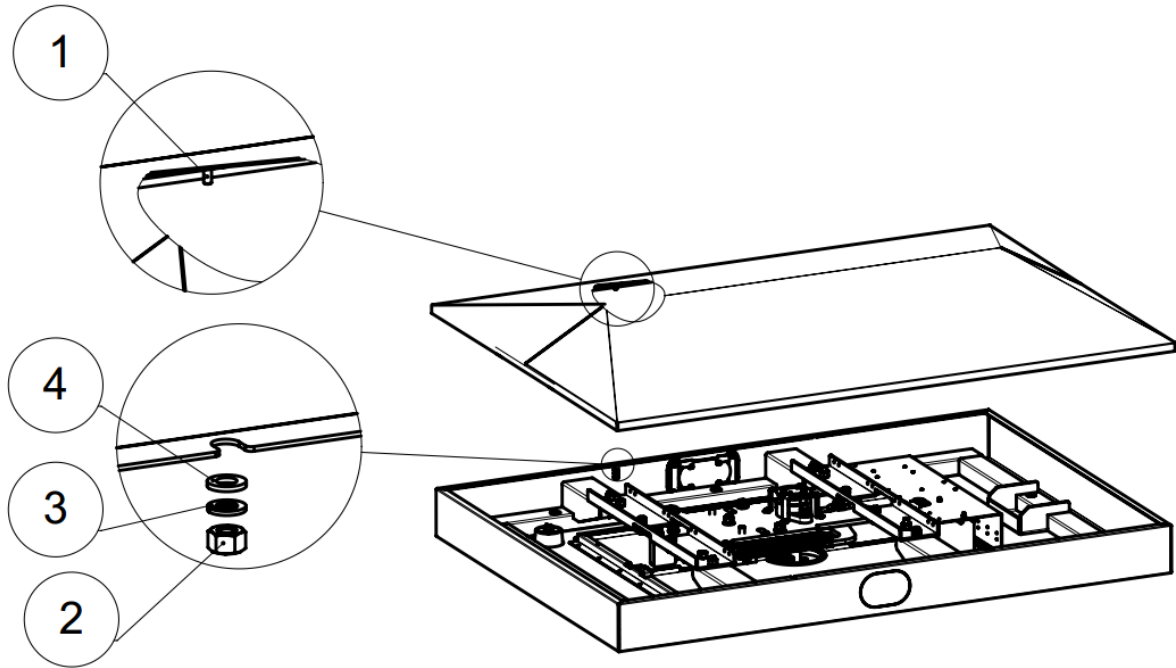

Fig. 13. Fixture of the upper cover
The upper cover shall be attached to the upper module by means of four nuts (4) and four washers (Fig. 13). Four pins for fixing the upper cover are located internally of the cover.